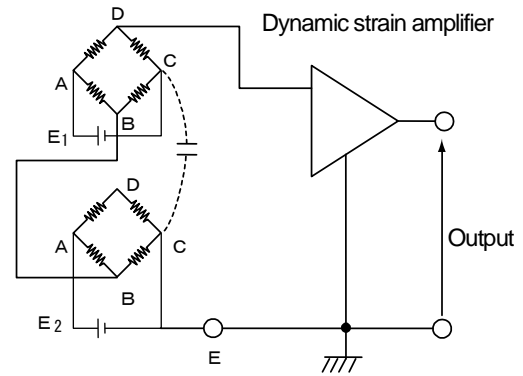

Figure 4-14
(2) When calculating value of subtraction (Figure 4-14)